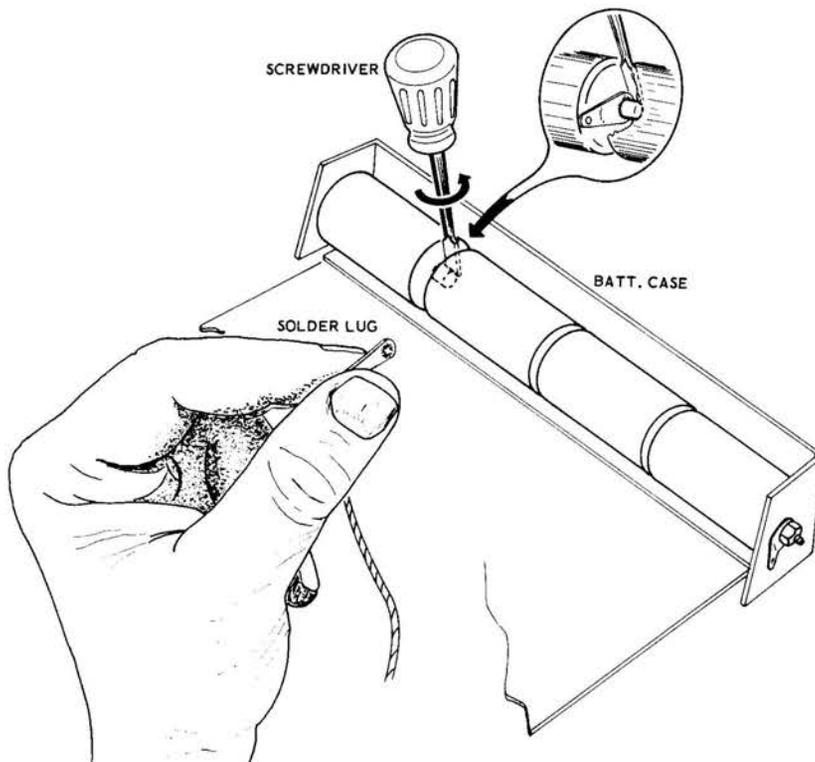

Figure 3M
() Connect the free end of this 5-1/2" wire to lug 6 of terminal strip A (S). Insert the #6 solder lug down between battery #3 and battery #4 in the manner indicated in Figure 3M. Be sure the solder lug is not touching any metal parts of the chassis.